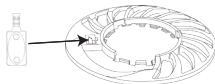

Figure 4
3. 3.3. If the pump is required to operate at zero suction, the sensor in Figure 1 should be mounted on the pump foot in Figure 4.